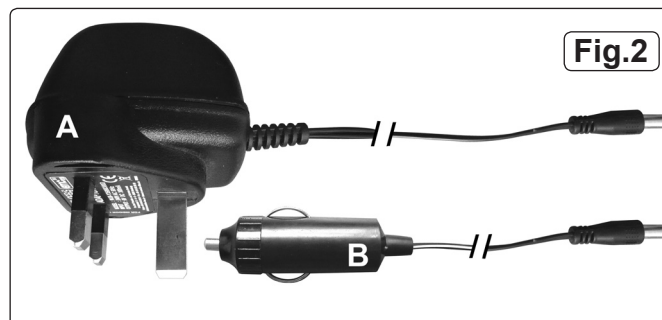

Fig.2
- ONLY USE THE SUPPLIED CHARGER PLUG (fig 2) FOR CONNECTING UNIT TO THE MAINS' ELECTRICAL POWER SUPPLY.**
- ✓ Inspect the charger (fig.2) plug, cable and adaptor for wear and damage to ensure items are safe before connecting to the mains power supply. If worn or damaged DO NOT use.